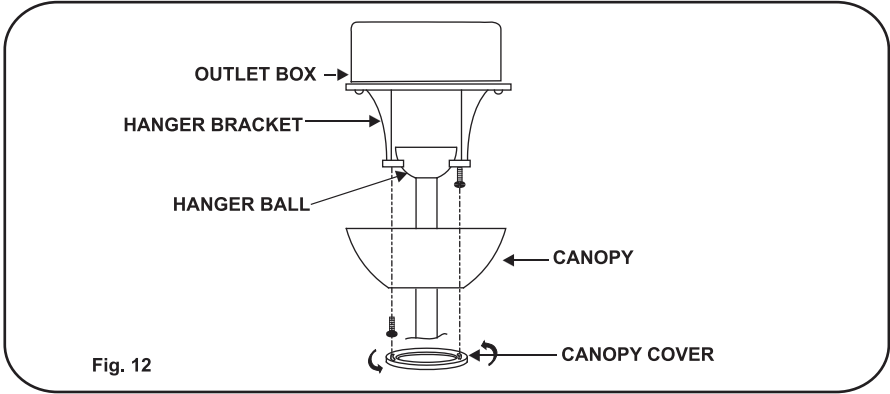

Fig. 12
Step 3. Align the canopy up to ceiling and over the loose screw. Place the canopy into key hole and rotate canopy clockwise. (Figure 12)
Step 5. Place the canopy cover to the canopy and rotate canopy cover clockwise until it is locked into right position. (Figure 12)